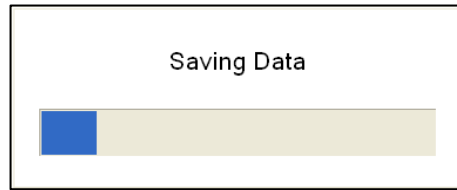

FIGURE 12
- Once you've completed song selections, press  to download selected songs to the Bell. A saving prompt box will appear while data is saving (FIGURE 12).